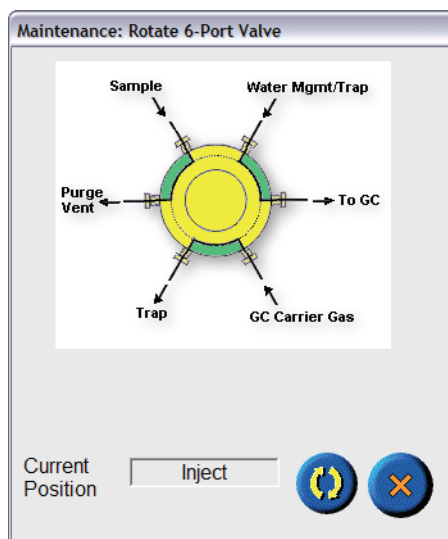

Figure 6.39. 6-Port Valve in the “Inject” Position
2. Rotate the 6-port valve to the “Inject” position (see Figure 6.39).